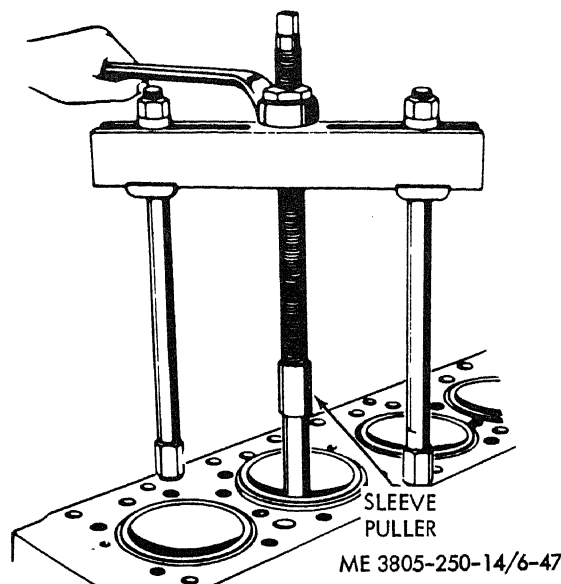

Figure 6-47. Cylinder sleeve puller.
(9) If cylinder sleeves (12) are to be removed, mark them for relation with the block. Refer to figure 6-47 and use sleeve puller 5120-417-2952 (970) to remove from the block. Discard preformed packings (13, fig. 7-45).